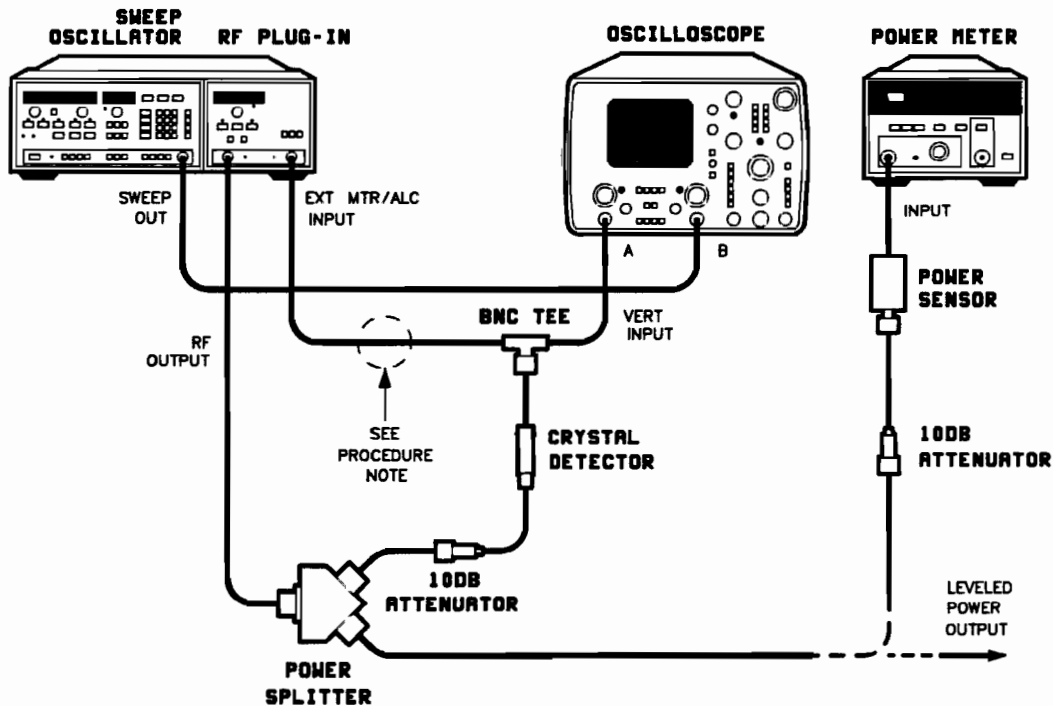

Figure 3-8. External Crystal Detector Leveling Set Up
1. Connect the equipment as shown in Figure 3-8. Turn the instruments on and allow them to warm up for at least 30 minutes.
4. To use leveled RF power output to test external equipment, make the connection at the point marked leveled power output in Figure 3-8.